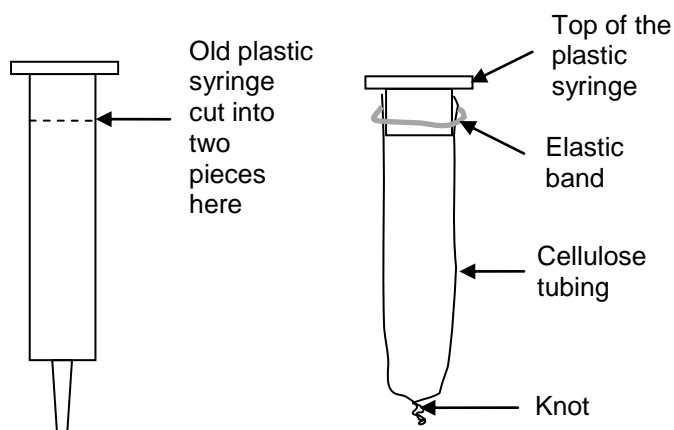

Figure 1 Preparing the cellulose tubing for permeability experiments.
- Sawn-off plastic syringe barrel to support the cellulose tubing (Figure 1)
2. Tie a knot in the end of the cellulose tubing. Soak the tubing in water and use an elastic band to fasten it to the sawn-off syringe barrel (figure 1).